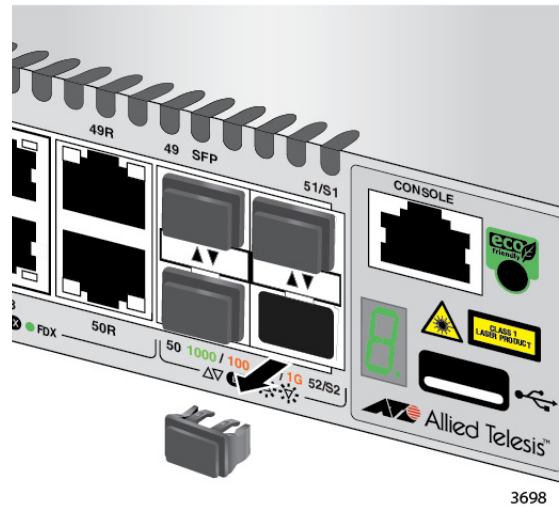

Figure 40. Removing the Dust Plug from the S2 Slot
- Remove the dust cover from the S2 slot in the next switch in the stack as shown in Figure 40.